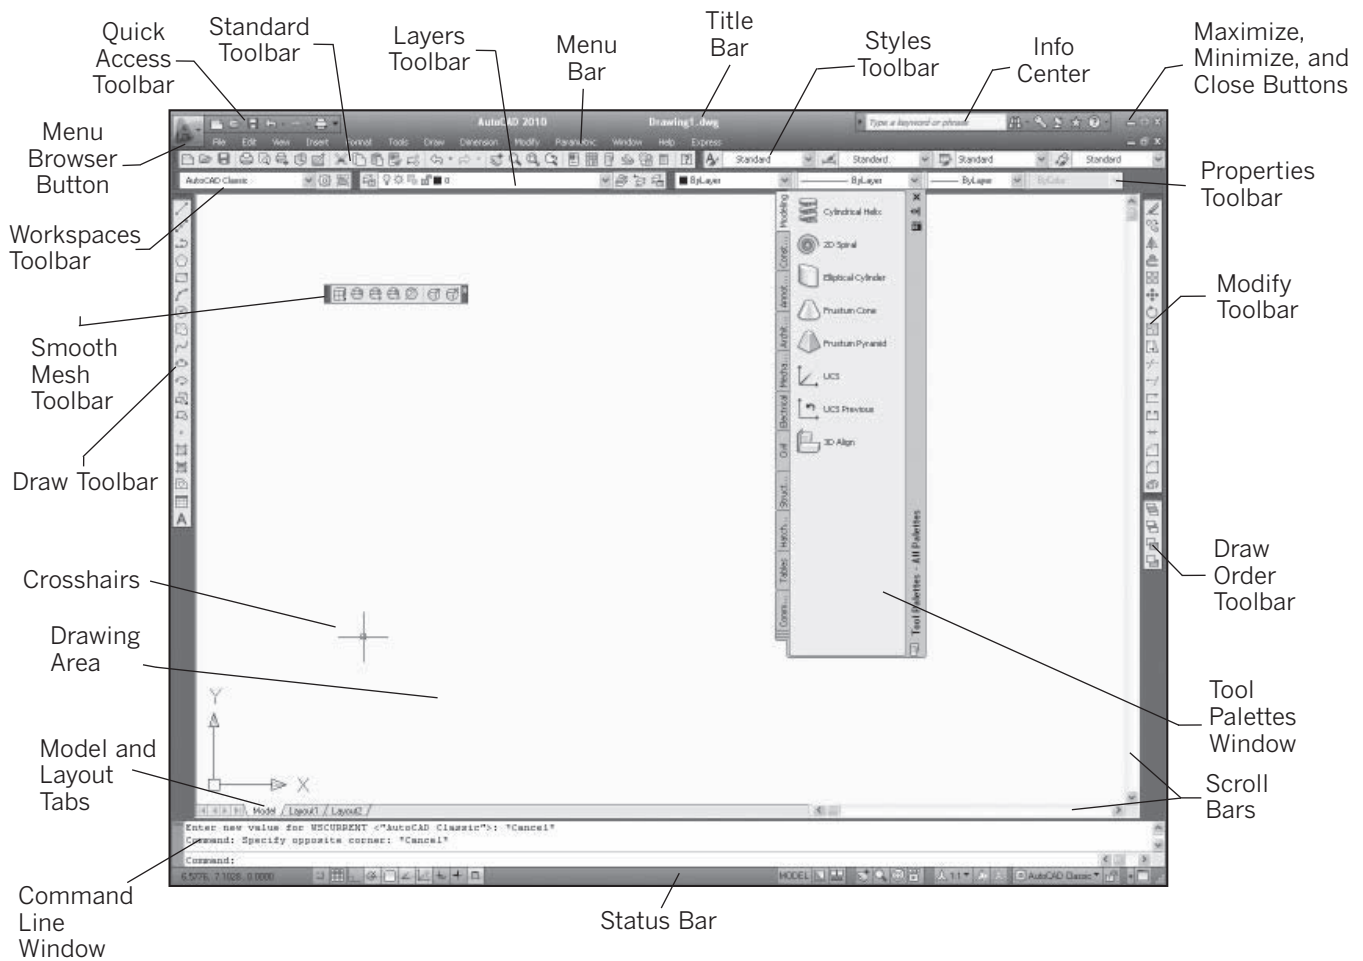

Fig. 3-5
AutoCAD displays the **AutoCAD Classic** workspace. Fig. 3-5 describes the parts that make up the **AutoCAD Classic** workspace.
7. Click and drag the other four toolbars and carefully dock them in place. Refer to Fig. 3-5 on page 23 if you are unsure where they belong.
8. If the **Draw**, **Modify**, and **Draw Order** toolbars are not present and docked in their default locations, position them now as shown in Fig. 3-5.
This textbook assumes that these eight toolbars are present in the **AutoCAD Classic** workspace in a configuration similar to the one in Fig. 3-5. Instructions are written to work with AutoCAD's default values at installation. It assumes that the screen color, crosshairs, and other elements have not been customized.